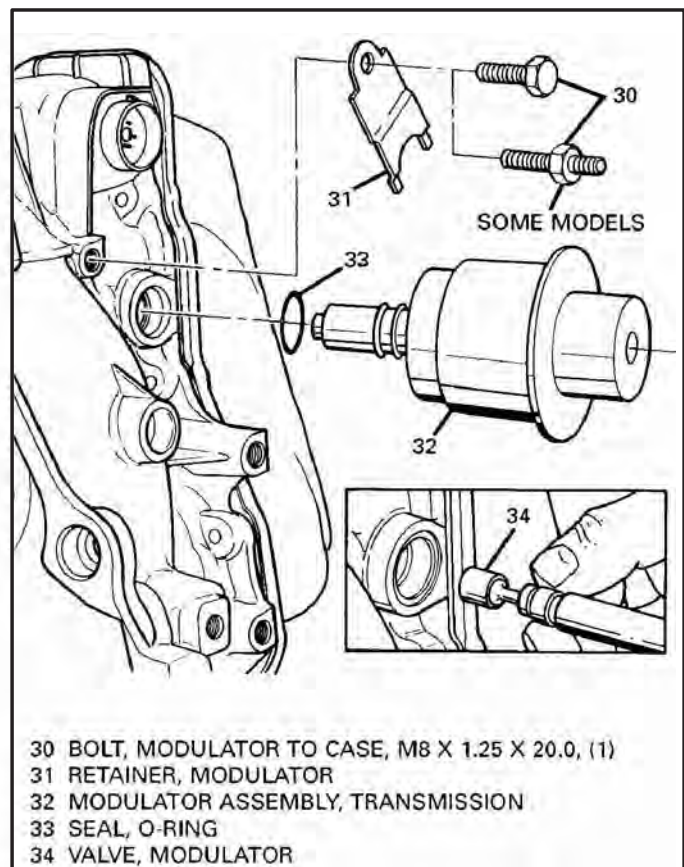

Figure 35
7. Remove the vacuum modulator retaining bolt and bracket, as shown in Figure 35.
9. Remove the modulator valve from the transaxle case bore using a magnet (See Figure 35).